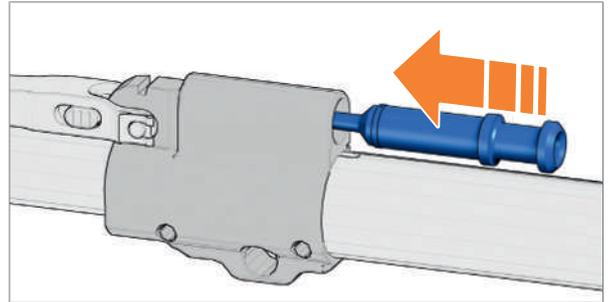

Fig. 121: Insert gas piston
1. Insert gas piston into the gas block (Fig. 121).